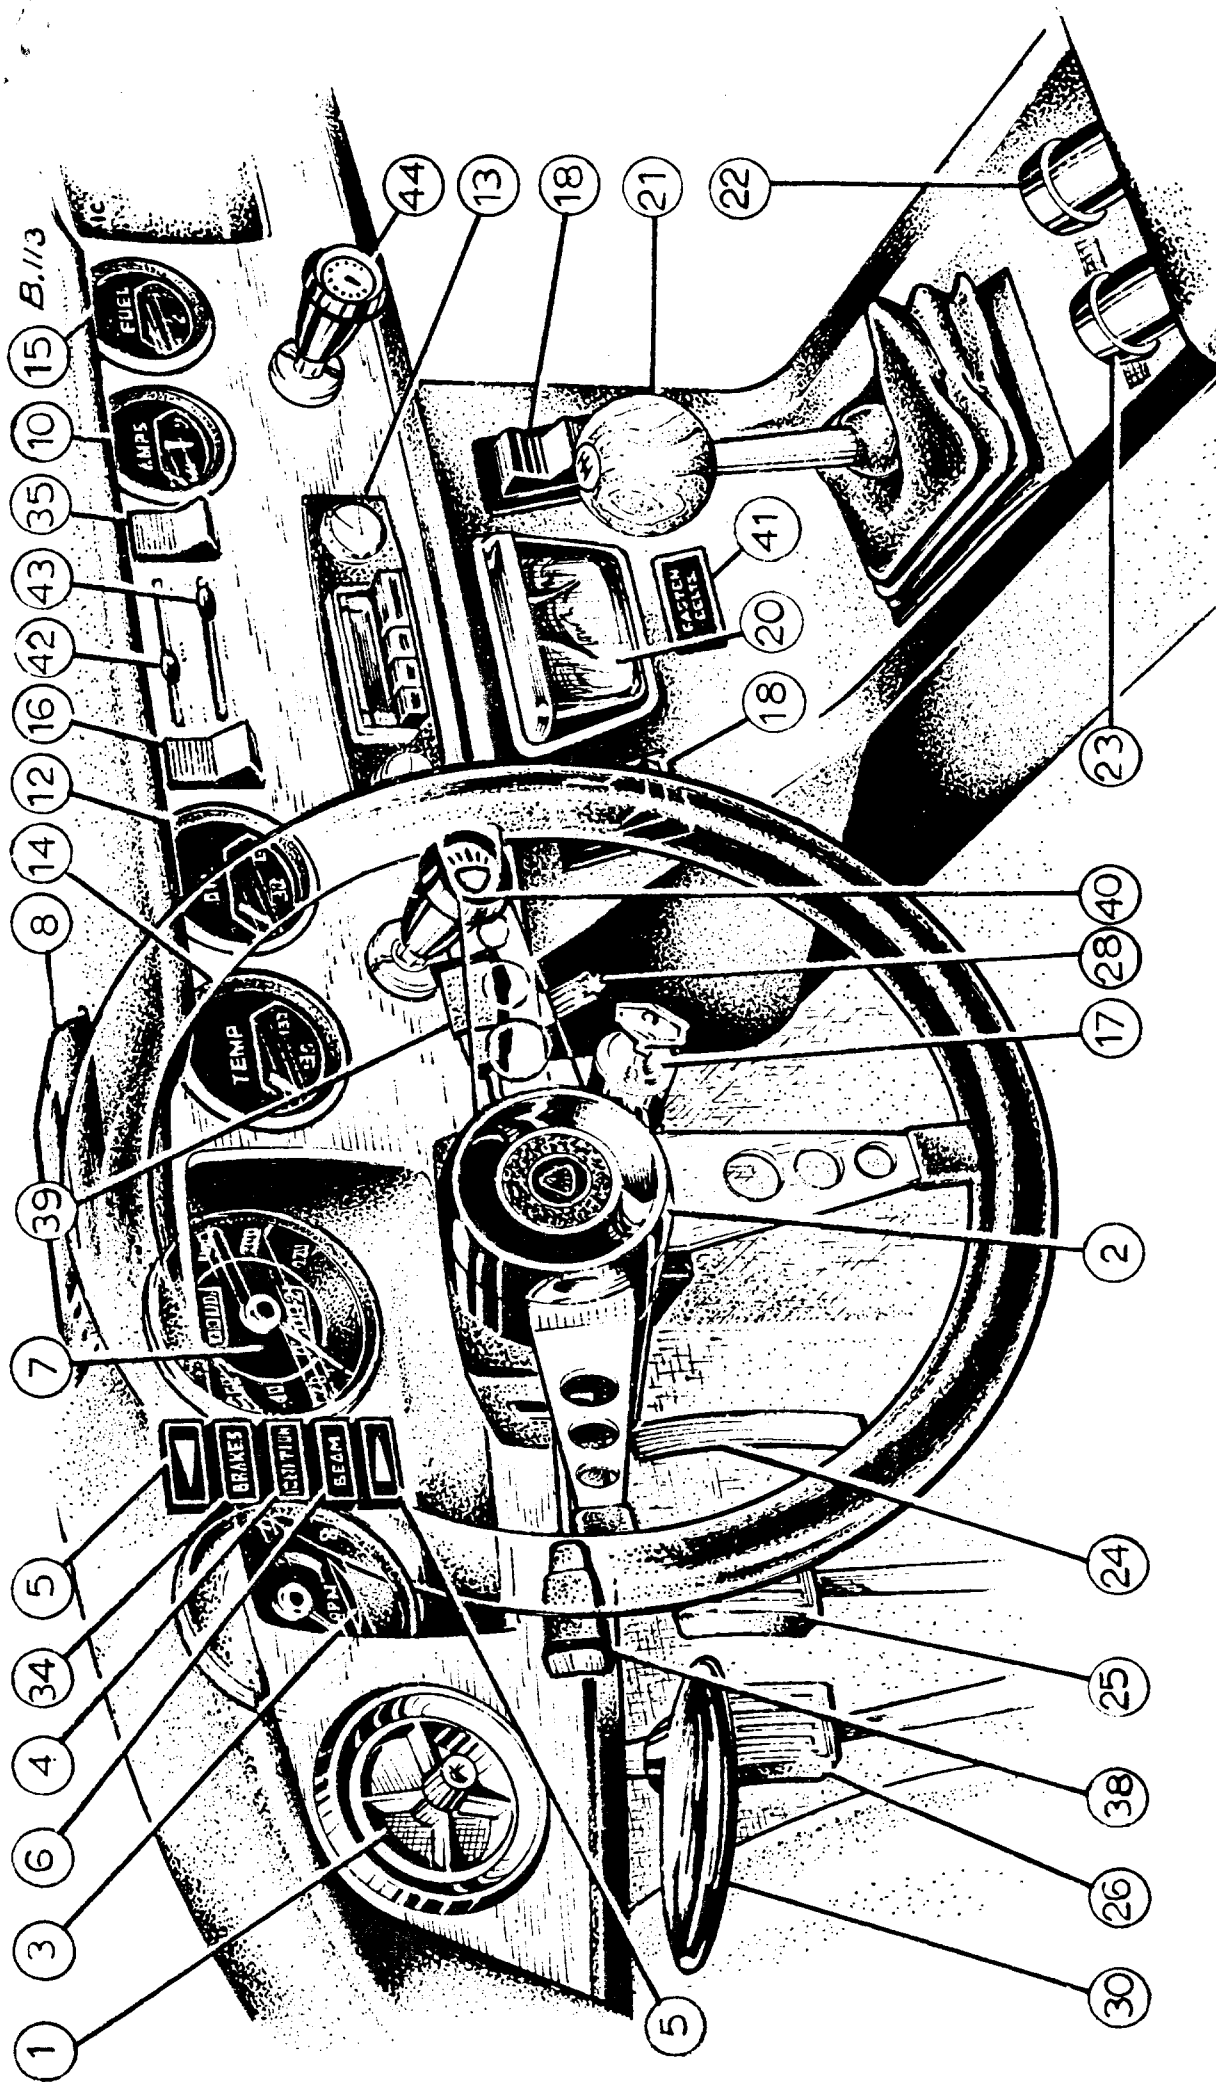

Fig. 1—L.H.D. Facia panel and controls (North America only).
## Key to Fig. 1
Main beam is obtained with the lever in the downwards (F) position; to select dipped beam move the lever upwards (G). Note that these positions are only operative when the lighting switch (40 of Fig. 1) is in operation. Lifting the lever towards the steering wheel flashes the headlamps main beams irrespective of the position of the lighting switch (H). When the headlamps are on main beam, a warning lamp (6 of Fig. 1) on the facia will illuminate.
Air can be delivered, hot or cold and at any intermediate temperature, to the screen (DEFROST), through the screen vents (8 of Fig. 1), or to the occupants' feet (INTERIOR), depending upon requirements.
Temperature is controlled by pulling out the knob (23 of Fig. 1) from the cold position when fully in, to the hot position when fully out.